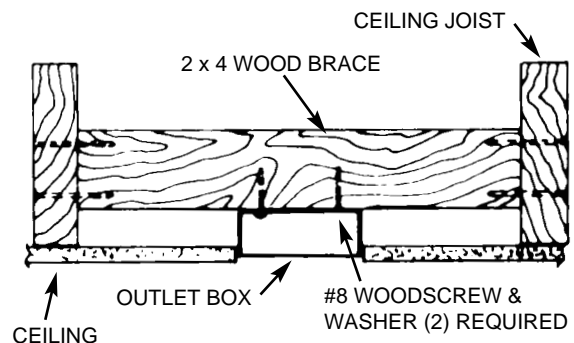

FIGURE 2
A. Secure a metallic outlet box 4" x 1½" octagon or 4" x ½" deep round box to 2 x 4 cross brace between two ceiling joists as shown in Figure 2. The outlet box must be recessed in the ceiling by ¼" minimum. Secure the outlet box to the cross brace by drilling (2) pilot holes no larger than the minor diameter of the woodscrews (5/64") and use two #8 x 1½" woodscrews and washers. Use the innermost holes for securing the box. Orient the box so the outermost holes are aligned with the 2 x 4 brace. The outermost holes will be used in Step 4B.